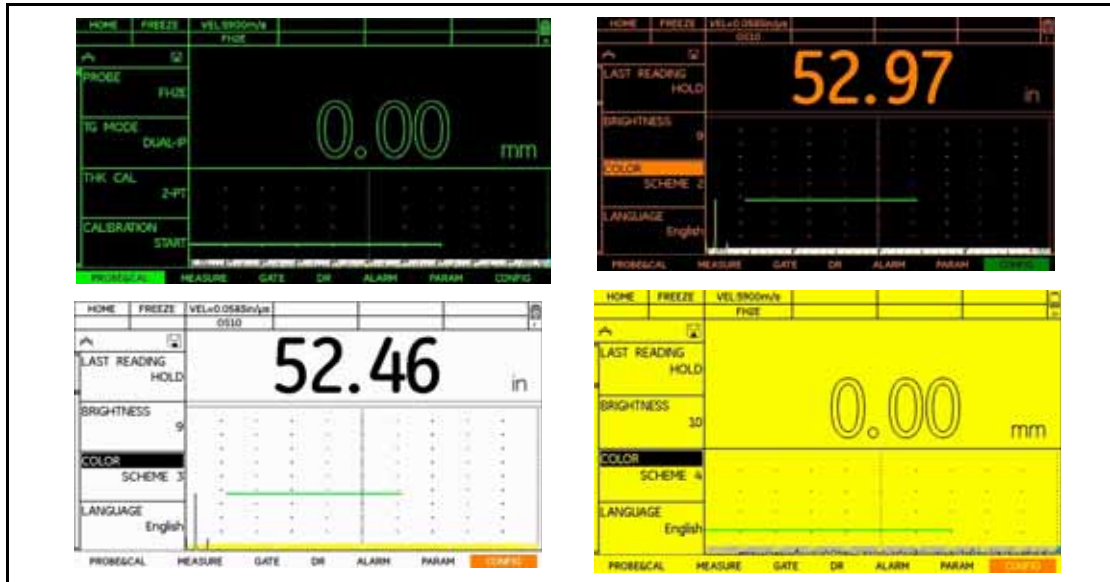

Figure 9: Available DMS Go Color Schemes
3. To change the display color scheme, move the joystick to scroll to the desired scheme. (Figure 9 on the next page shows the possible color schemes.)